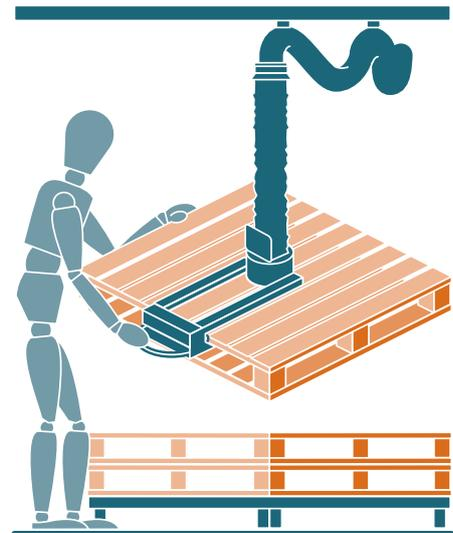

Figure 9 Pallet inspection
**Solution:** A range of vacuum-handling devices are available specifically for the pallet making industry, for example for pallet moving, turning and to aid the pallet inspecting process. With these devices, operatives are able to inspect up to 1350 pallets per shift with minimum handling effort (see Figure 9).